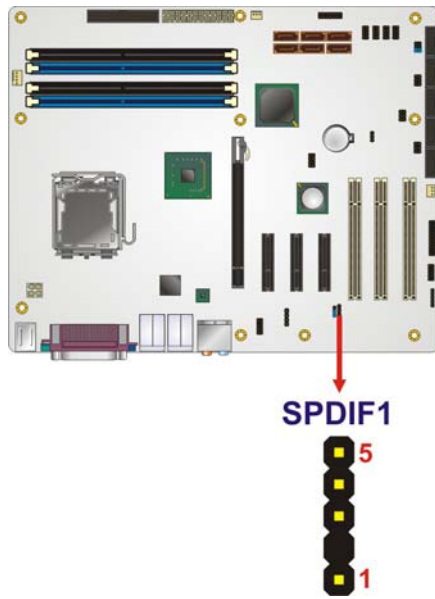

Figure 4-16: SPDIF Connector Pinout Locations
- CN Location:** See **Figure 4-16**